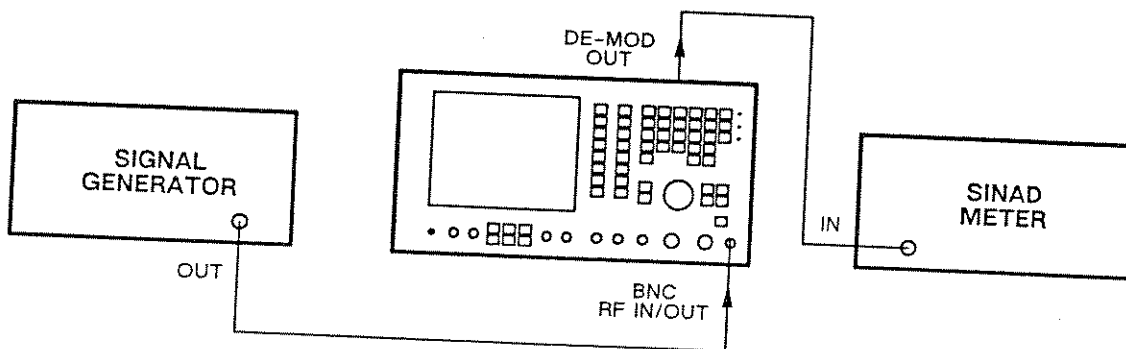

Fig. 6-29 Test equipment connections for sensitive receiver sensitivity
- (1) Connect the signal generator RF output to the RF IN/OUT BNC socket. Connect the SINAD meter input to the DE-MOD OUT socket. See Fig. 6-29.